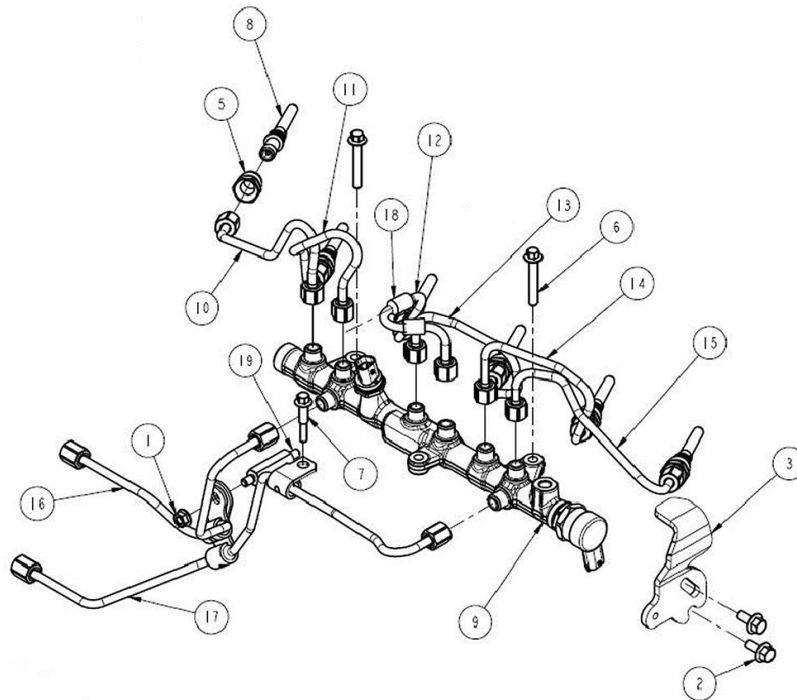

Figure 9 – HPFP Lines
27. Remove the nut (1) and bolt (7) securing the fuel tubes (16, 17). Reinstall bolt (7) (Figure 9).
28. Unscrew both high pressure fuel injection pump to fuel rail fuel tube union nuts and remove the fuel tubes (16, 17) (Figure 9).